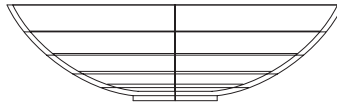

Fig. 14.18 Second example – 3D Mirror – the 3D model
First example – 3D Mirror (Fig. 14.18)
1. Construct a solid of revolution in the shape of a bowl in the **ViewCube/ Front** view working on a layer of colour **yellow** (Fig. 14.18).